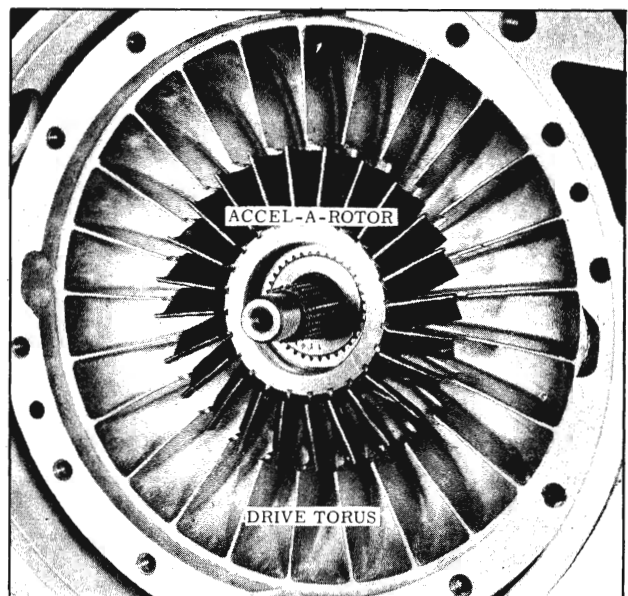

Fig. 3-37 Drive Torus and Accel-A-Rotor
13. From the front of the transmission, remove the drive torus member and accel-a-rotor as a unit. (Fig. 3-37)